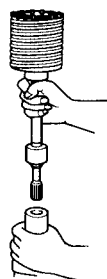
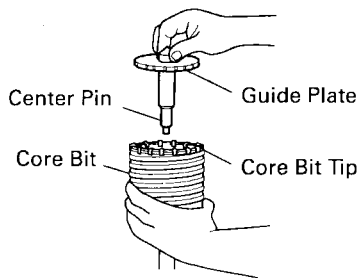

Fig. 13
Fig. 14
- (2) Mount the core bit shank to the rotary hammer. (Fig. 13)
- (3) Insert the center pin into the guide plate until it stops.
- (4) Engage the guide plate with the core bit, and turn the guide plate to left or right so that it does not fall even if it faces downward. (Fig. 14)